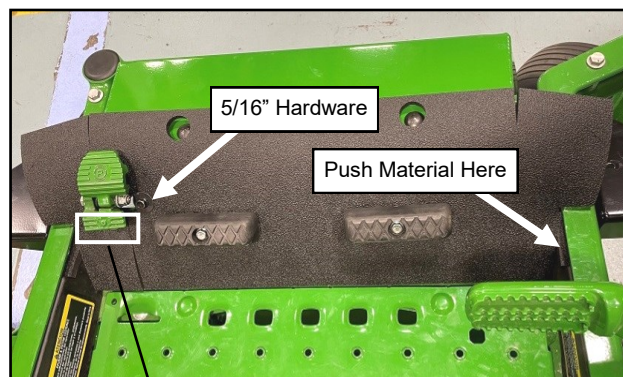

Fig. 1.16a (Install Footrest Lip Floormat)
**1.16** Place the footrest lip floormat on the vehicle. Place floormat material found on the lower right and left into the sides of the vehicle frame. Install 5/16" hardware into square hole to the right of the pedal. Next, install 3/8" hardware below the pedal making sure 3/8" washers are wedged between the vehicle and clipped washer. Re-install the vehicle footrests. Now fully tighten hardware. See Figures 1.16a and 1.16b.